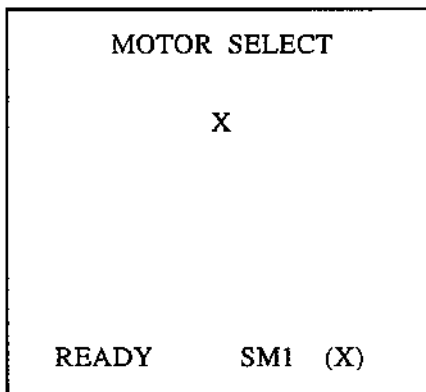

Fig. 2.8 Motor Select State
- (1) Make sure that the splicer is in its "READY" state or that the splicing sequence is paused or finished.
- (2) Press the "MOTOR" key. The motor select state is displayed on the monitor as shown in Fig. 2.8. The second line shows which motor is selected.
- (3) The selected motor is changed by using the Δ (up) or ∇ (down) keys.